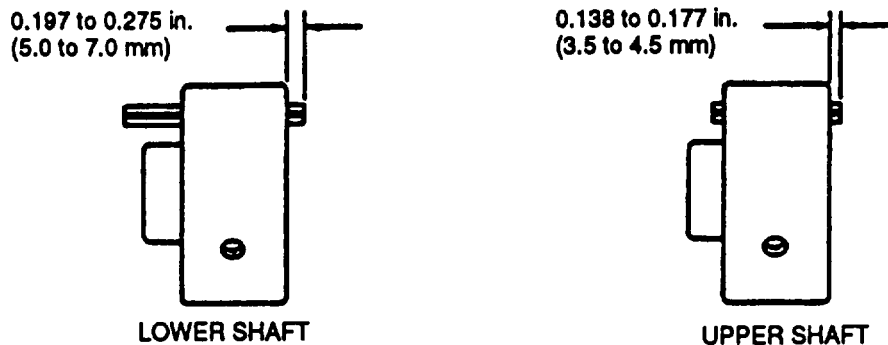

FIGURE 3-116. Spring Pin Protrusion
- a. Install spring pins (6 and 16, FIGURE 3-115) with end of pin protruding as shown in FIGURE 3-116.